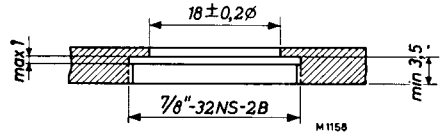

Fig. 40. Recommended mount\*); dimensions in mm.
(1) The eccentricities are given with respect to the axis of the threaded hole shown in fig. 40, the grid disc of the tube being screwed firmly against the flange (with inner diameter of 17 mm).
(2) Maximum eccentricity of the anode 0.15 mm.
(3) Maximum eccentricity of the cathode R.F. connection 0.20 mm.
(4) The tolerance of the eccentricity of the base is such that this base fits into a hole with a diameter of 32.5 mm, provided this hole is correctly centred with respect to the axis of the hole specified in fig. 40.
(5) The tolerance of the eccentricity of the base flange is such that this base flange fits into a hole with a diameter of 33.5 mm, provided this hole is correctly centred with respect to the axis of the hole specified in fig. 40.